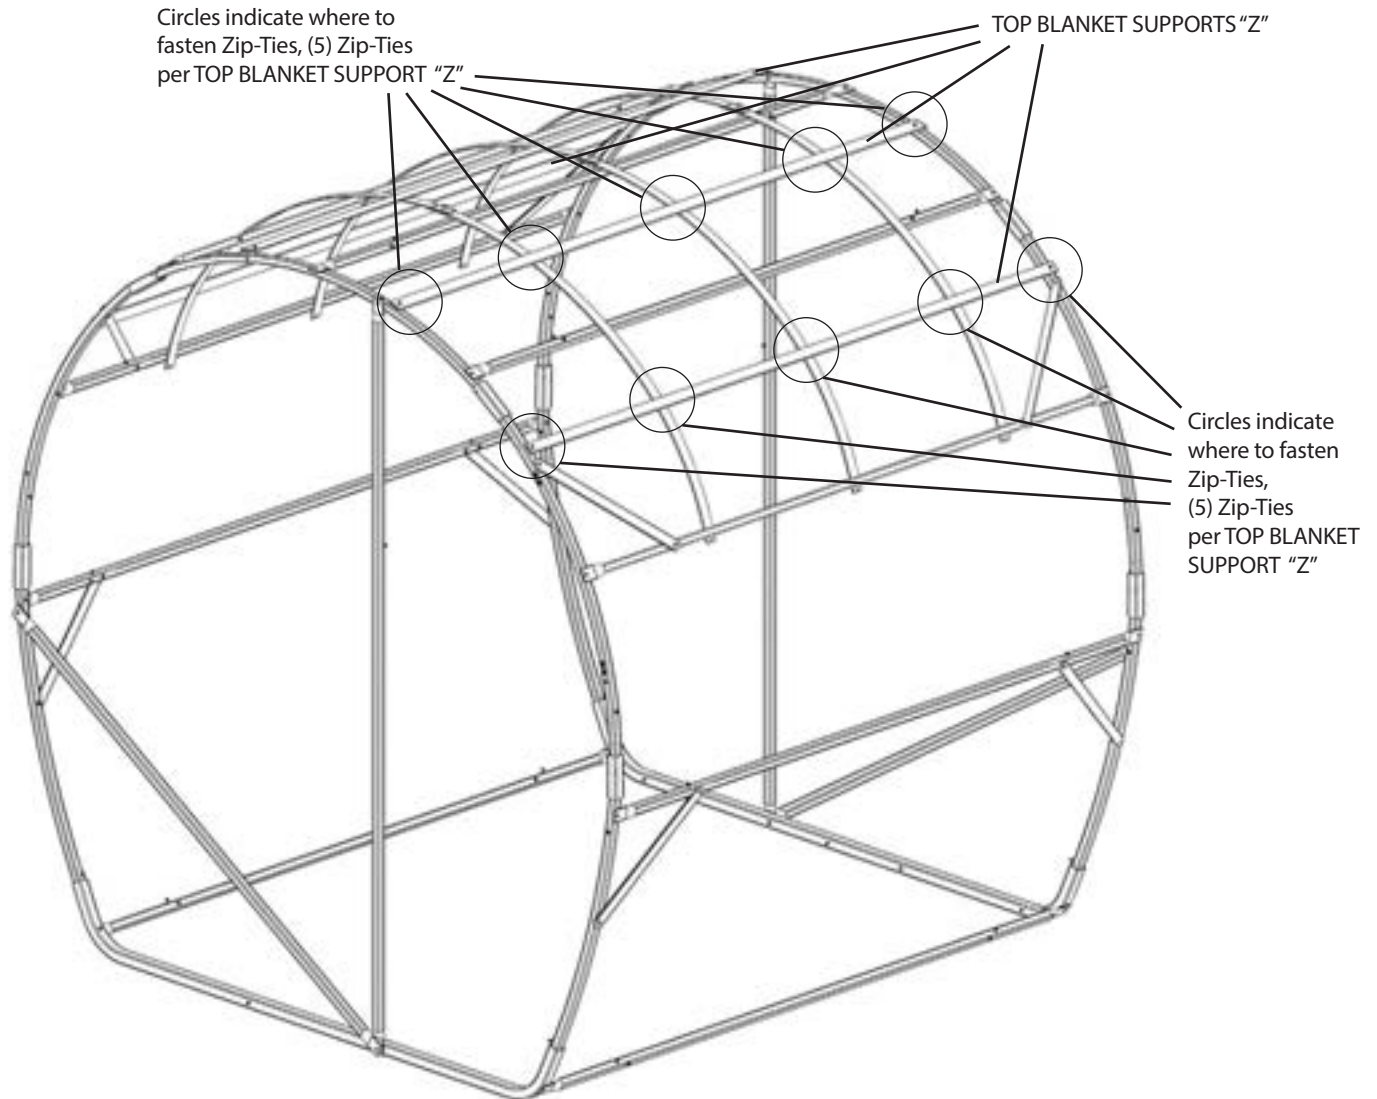

Figure 26.1
STEP 18: Locate the (4) TOP BLANKET SUPPORTS "Z". Using (20) Zip-Ties, align and fasten the (4) TOP BLANKET SUPPORTS "Z" along the top of the bale blind frame, attaching each end to the corresponding location along the end hoop frames, resulting in the frame illustrated in Figure 26.1.